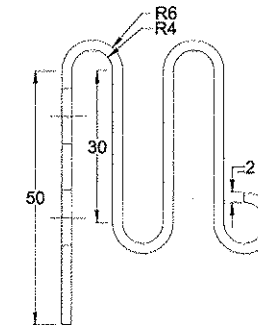

Figure 9-35 Side view of the model showing the dimensions of the holes
In this tutorial, you will create two holes on the back planar face of the model created in Tutorial 2 of Chapter 3. Figures 9-35 and 9-36 show the dimensions for the holes. The material to be applied on the model is Stainless Steel. Next, you will run the analysis under two conditions and evaluate the Total Deformation, Directional Deformation, Equivalent Stress, Maximum Principal Stress, and Minimum Principal Stress. (Expected time: 1 hr)
- Draw two circles each of diameter 10. For other dimensions, refer to Figures 9-35 and 9-36.